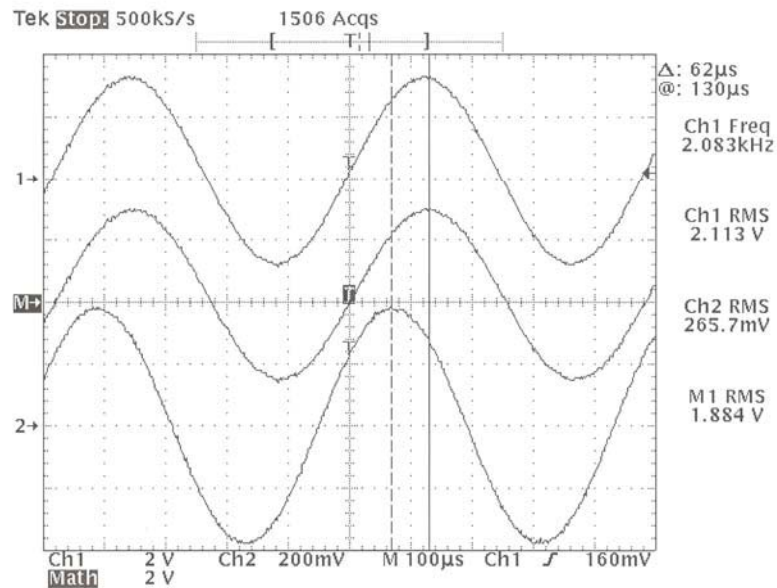

Figure 4.11
10. Obtain a printout at a frequency  $f \approx 2 \text{ kHz}$  and another at a frequency  $f \approx 5 \text{ kHz}$ , each showing the three waveforms, their RMS magnitudes and the V-bar cursors positioned to indicate the time-shift  $\Delta t$  between the M and Ch2 waveforms. A typical DSO display (with  $R_1 = 504 \Omega$  and  $f = 2083 \text{ Hz}$ ) is shown in Figure 4.11. (Make sure to obtain your TA’s signature on the printouts)
In the example shown in Figure 4.11,  $Z$  is capacitive since  $f < f_r$  and its magnitude is  $100(1.884/0.2657)$  or  $709 \Omega$  and its angle is  $-360(2083)(62\mu)$  degrees or  $-47^\circ$ .